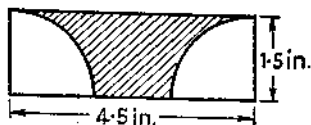

Fig. 11
(5) Calculate the area of the shaded portion in fig. 11.